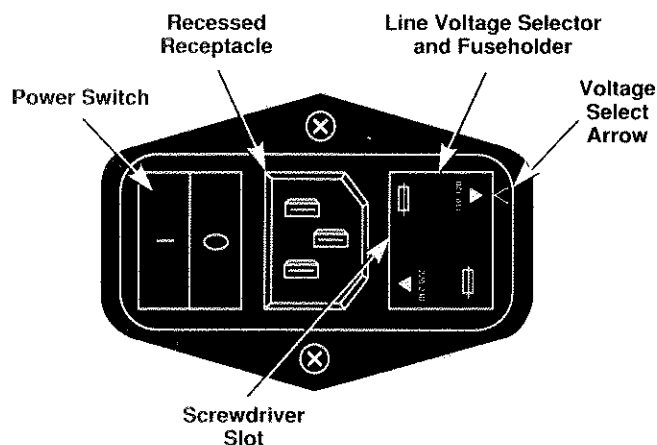

Figure 1-2
This section contains information on the unit's input power requirements. The power switch, power receptacle, line voltage selector, and fuseholder are all located on the rear panel. Figure 1-2 shows the power input module.
Before connecting the AC power cord, verify that the proper line voltage is selected for the source voltage. The selected input voltage is determined by the markings on the module as shown in Figure 1-2. The voltage is marked next to the arrow located on the upper right side of the module.
3. Insert a small flat-head screwdriver into the small notch on the left side of the module (see Figure 1-2) and gently pry the module from the power input module.
5. Rotate the module and re-insert it so that the appropriate operating voltage is next to the arrow located on the upper right side of the power input module (see Figure 1-2).
2. Locate the line voltage and fuseholder module on the right side of the power cord receptacle on the rear panel (see Figure 1-2). Note the orientation of the line voltage and fuseholder module before removing it.